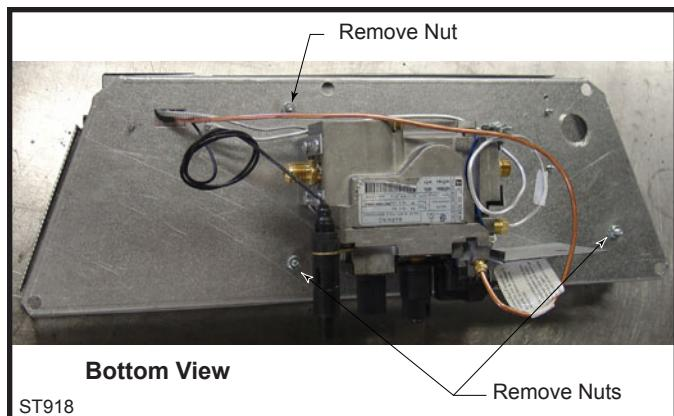

Fig. 79 Remove three (3) nuts securing ember bed in place.
1. Remove three (3) 3/8" nuts on bottom side of burner pan. (Fig. 79)
2. Carefully remove ember bed by tilting the right side up and lifting out toward the right side of the unit. (Fig. 79)
2. Thread and tighten 3/8" nuts back onto pem studs on underneath side of control panel, reversing Step 1 shown in Figure 79.